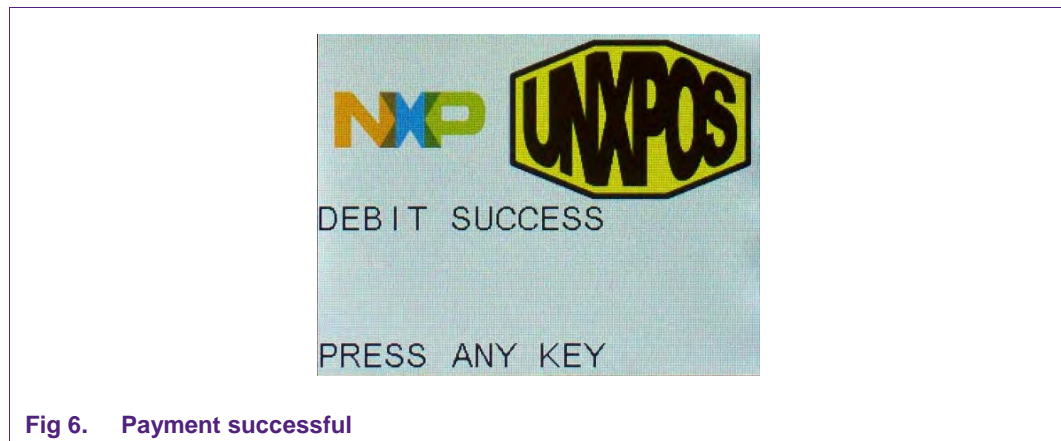

Fig 6. Payment successful
- If "DEBIT SUCCESS" is displayed as shown in Fig 6, the previously inserted amount is debited from the credits on the card.